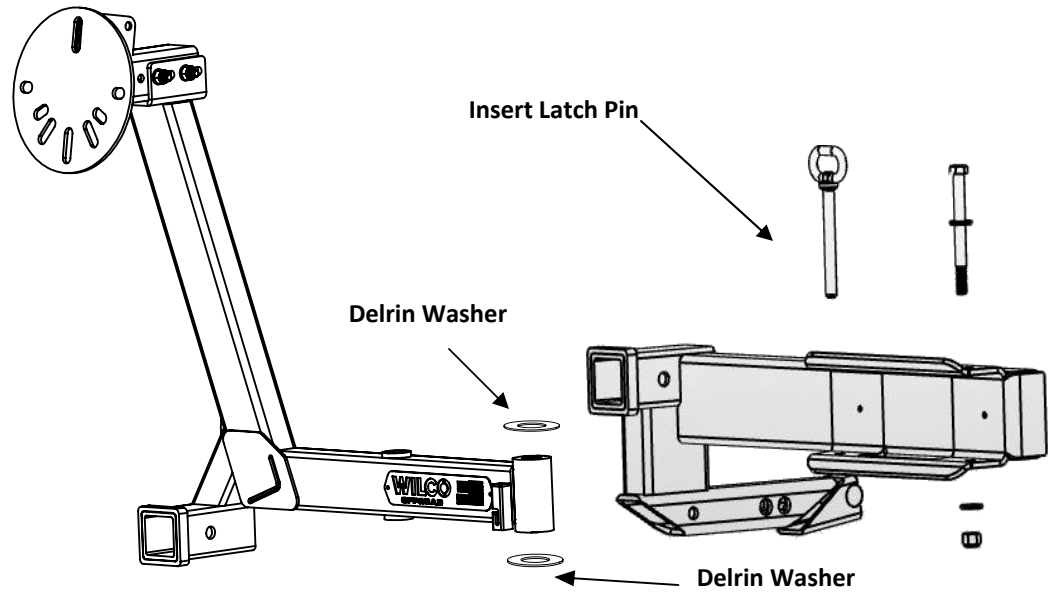

Figure 3. Mounting HitchGate Swing Arm to Receiver Arm
8. Insert the tire mount swing arm into the HitchGate frame and insert the latch pin through the frame's tabs and the polyurethane bushing. **(See Figure 3.)**
9. Place a black plastic thrust washer on the top and the bottom of the round metal bushing. Grease and then insert the 1/2-13x5 1/2" bolt with 1/2" flat washers on the top and bottom through the bushing and tighten snug. **(See figure 3.)**